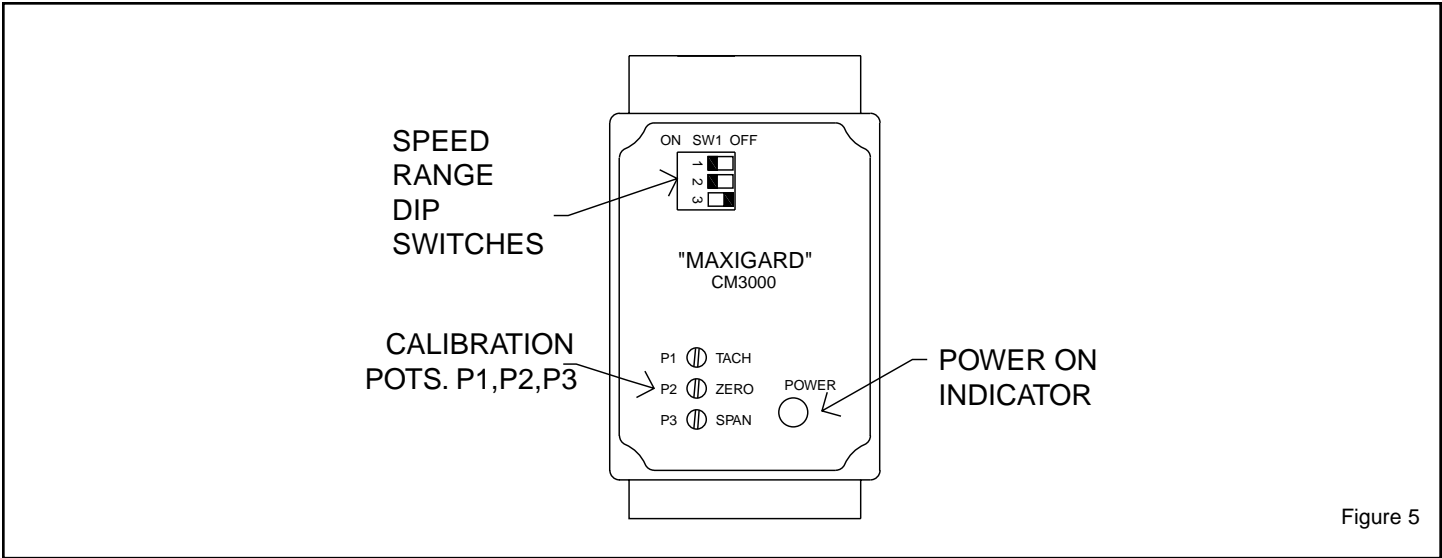

Figure 5
7.1 Set dip switch (SW 1) located on the top of the transmitter module, for the monitored shaft operating speed range. (see figure 5, page 6)